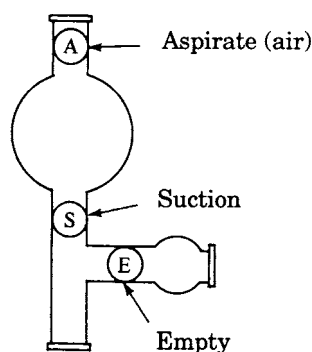

Figure 2.2
- Examine the Spectroline pipet filler and locate the valves marked “A,” “S,” and “E” (Figure 2.2). These operate by pressing the flat surfaces between the thumb and forefinger.
1. Obtain approximately 25 mL of an unknown liquid from your instructor. Record the code number. Determine the temperature of the liquid (17).
2. Weigh a clean, dry 50-mL beaker to the nearest 0.001 g (18).
3. Transfer 10.00 mL of the liquid with a 10-mL volumetric pipet into the preweighed beaker using the Spectroline pipet filler (Figure 2.2). Immediately reweigh the beaker to the nearest 0.001 g (19).
4. Calculate the weight of the unknown liquid by subtraction (20).
5. Calculate the density of the unknown liquid at the temperature recorded (21).
7. Calculate the average density. Determine the identity of your unknown liquid by comparing its density to the densities listed in Table 2.2 (22).